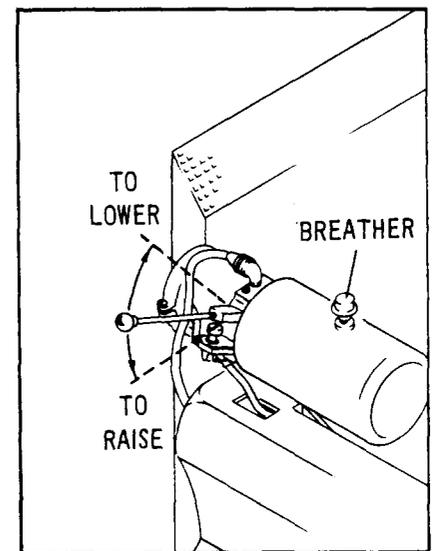

Fig. 18
14.03 To lower platform, open platform, then lift up on control handle assembly (Fig. 18) and hold until platform reaches desired level.
14.04 To elevate platform, push down on control handle assembly (Fig. 18) until it engages the starter switch. Hold handle down until platform reaches desired level. Releasing permits handle to return to "neutral," and platform will stop and hold in position.
14.07 Use a high-grade motor oil (S.A.E. 10W-30) in hydraulic system. To fill, lower platform to ground level and remove breather (Fig. 18) of power unit. Using above grade oil,